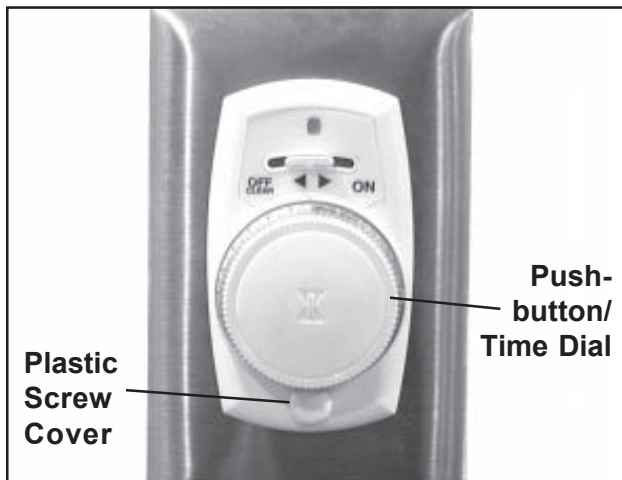

Figure 33. Removing the 24-hour Timer from the Switchplate
4. By hand, pull the pushbutton/time dial off the timer (Figure 33).